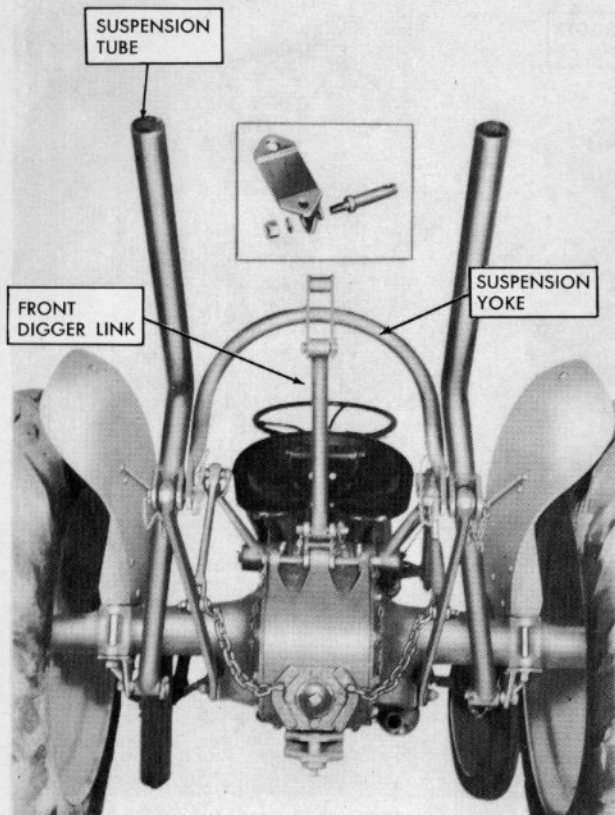

Figure 3
2. Attach the link pins found in the bag of small parts to the stabilizer brackets. Be sure to insert the link pins from the inside of the bracket. See insert, Figure 3.
3. Attach the stabilizer brackets to the rear axle housing with the fender bolts. The bracket flange faces inward with the wide portion of the flange forward, as shown in Figure 3. Use the nuts and lock washers from the fender bolts to secure the brackets.
4. Attach the suspension tubes to the stabilizer brackets. Be sure the reinforcement ribs are upward and the bend in each arm is inward as shown in Figure 3. Secure with the linch pins provided.
5. Attach the suspension yoke and the suspension tubes to the tractor lower links as shown in Figure 3.
6. Attach the front digger link to the tractor control spring yoke and the digger suspension yoke. See Figure 3.